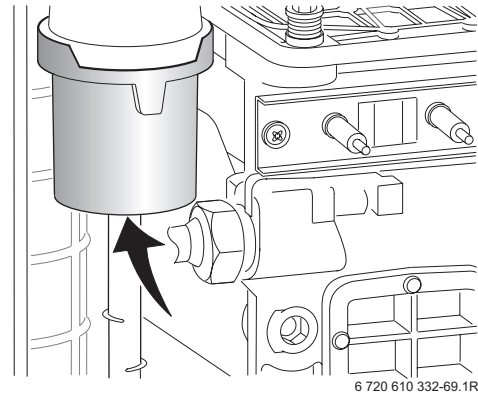

Fig. 45
- ▶ Unscrew the two fixing screws and carefully remove the electrode assembly. Refer to fig. 45.